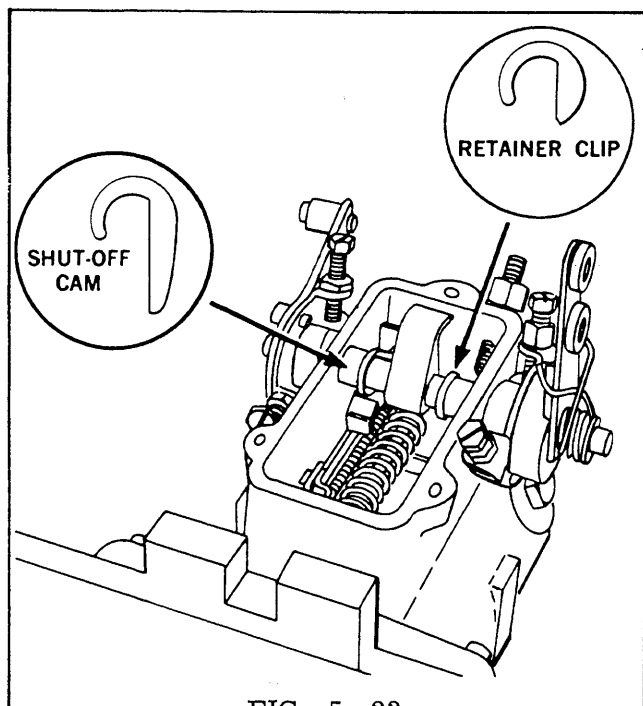

FIG. 5.23
STEP 23 Install a new shut-off cam with the straight inner edge engaging the slot. The cam should snap into position. Install a new throttle shaft retainer clip with the straight inner edge engaging the slot. The clip should snap into position (Fig. 5.23).